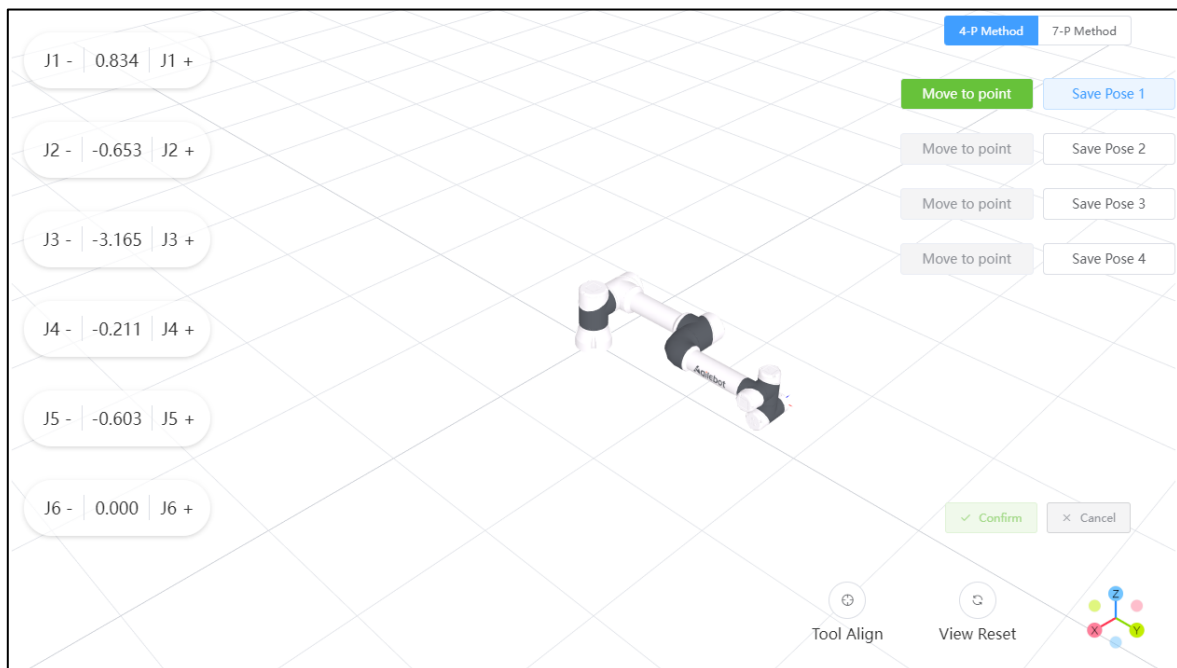

Fig. 2.17 Tool Coordinate System Setting Interface 5
4. Select the pose to be taught. After teaching of that pose, click "Save Pose", and the interface is shown in Fig. 2.17.
6. After teaching of 7 poses, Please save after confirmation". At this time, click "Confirm" in Fig. 2.17, and it may prompt "Coordinate system saved successfully", as shown in Fig. 2.19. At this time, the tool coordinate system has been set.